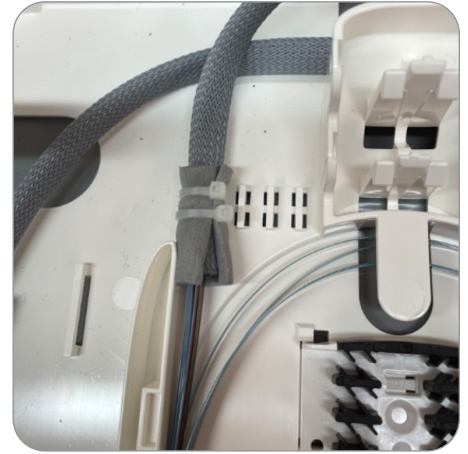

Figure 18
7. Bring fiber to splice tray and secure at splice tray entrance (Figure 18).
- c. If using mesh or spiral wrap, place the non-adhesive foam and tie wraps over the mesh or spiral wrap (Figure 18).